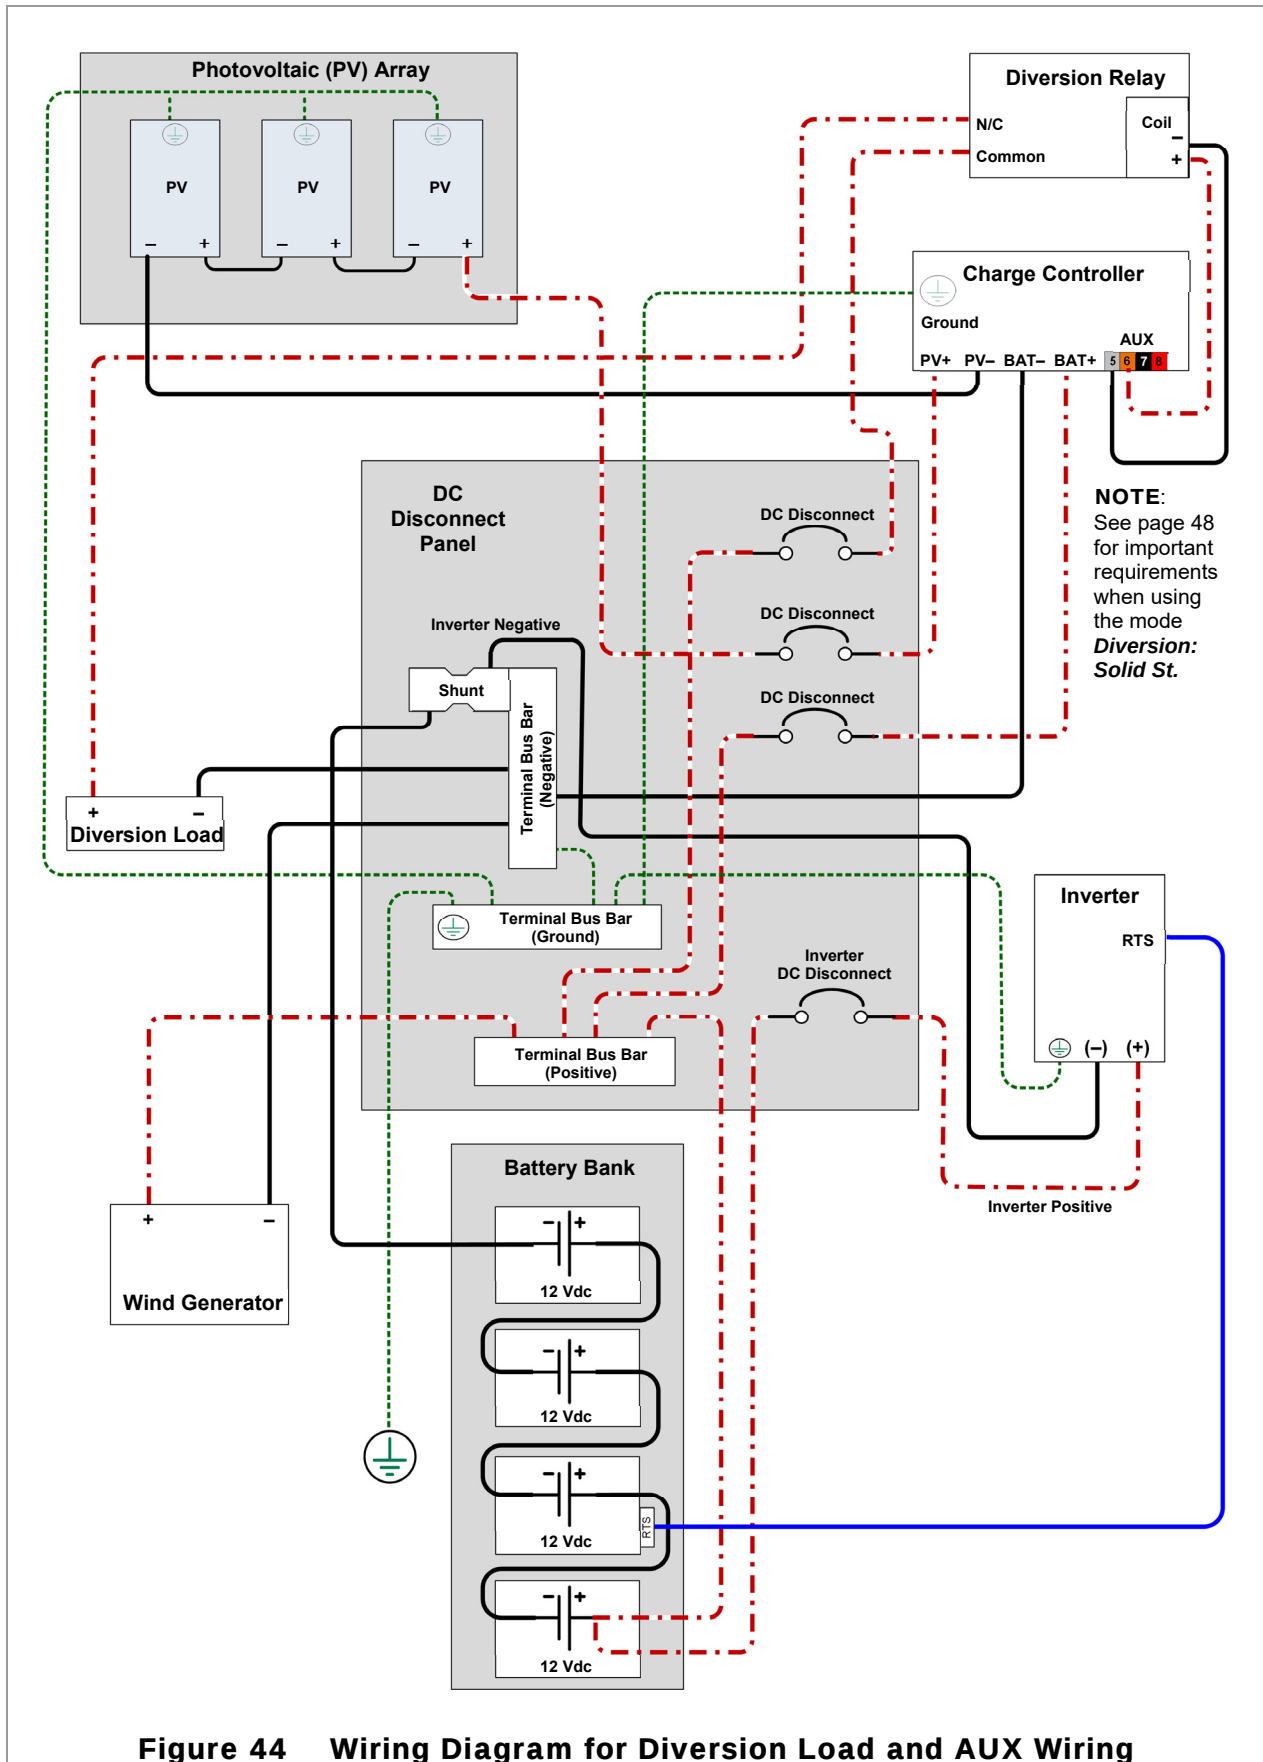

Figure 44 Wiring Diagram for Diversion Load and AUX Wiring
- See Figure 44, page 49, for an auxiliary setup wiring diagram example.